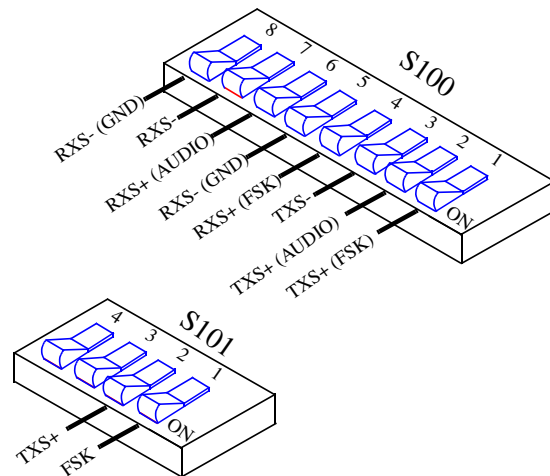

Figure 7-9 S100 SETTING
- Set MAC S100 and S101, all Sections OFF (see Figure 7-9).